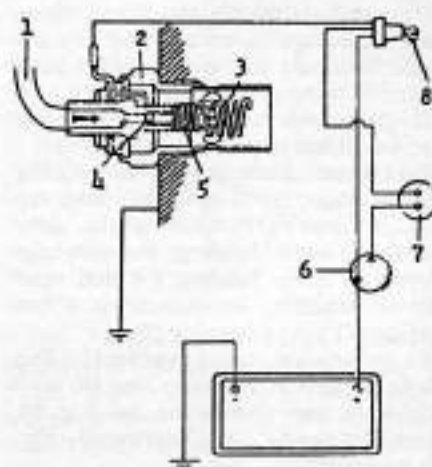

Fig. 81—Diagram of typical thermostart unit showing component parts and their relative positions.
System consists of a reservoir in line with fuel return line, thermostart unit located in intake manifold and a switch which is an integral part of the starter switch. See Fig. 81.
When starter key (8—Fig. 81) is turned to HEAT position electrical current energizes thermostart unit (2) in intake manifold. Current heats coil (5) which opens fuel valve (4) and changes fuel into